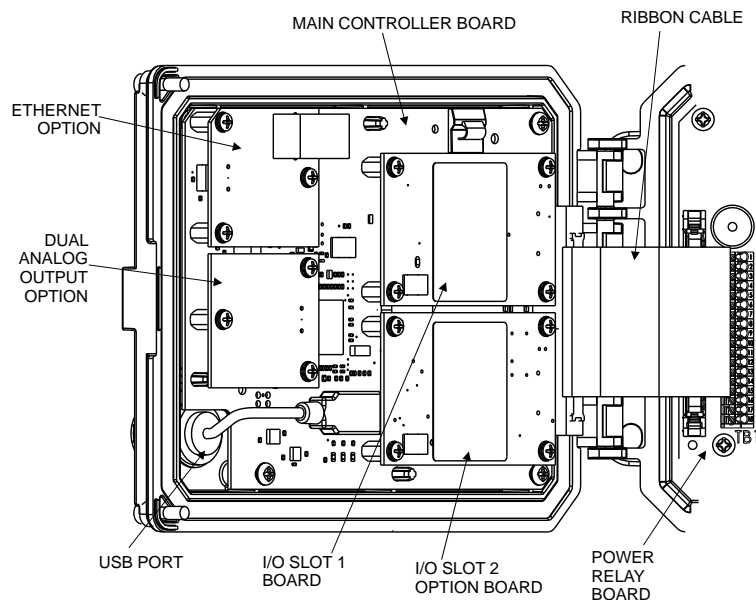

Figure 2
5. Install the new option board. See figure 2 for the board locations. Sensor boards and Analog Input boards are inserted into I/O Slot 1 and I/O Slot 2. Insert the 6-32 screws into the mounting holes in the option board and attach them to the front panel.